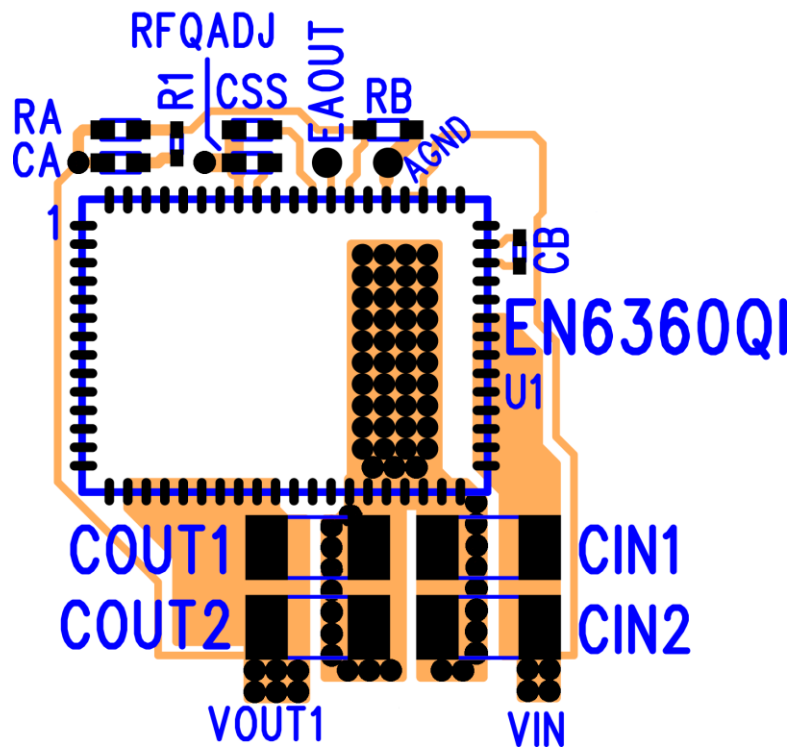

Figure 10: Top Layout with Critical Components Only (Top View)
**Recommendation 6:** AVIN is the power supply for the small-signal control circuits. It should be connected to the input voltage at a quiet point. In Figure 10 this connection is made at the input capacitor.
**Recommendation 7:** The layer 1 metal under the device must not be more than shown in Figure 10. Refer to the section regarding Exposed Metal on Bottom of Package. As with any switch-mode DC/DC converter, try not to run sensitive signal or control lines underneath the converter package on other layers.
**Recommendation 9:** Keep  $R_A$ ,  $C_A$ ,  $R_B$ , and  $R_1$  close to the VFB pin (Refer to Figure 10). The VFB pin is a high-impedance, sensitive node. Keep the trace to this pin as short as possible. Whenever possible, connect  $R_B$  directly to the AGND pin instead of going through the GND plane.